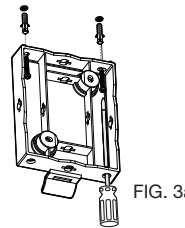

FIG. 3a
1. Place the mounting plate against the ceiling. Mark the hole locations. Drill suitable holes and insert the wall plugs. Fix the mounting plate to the ceiling using the two mounting screws with a very long Phillips-head screwdriver. FIG. 3a